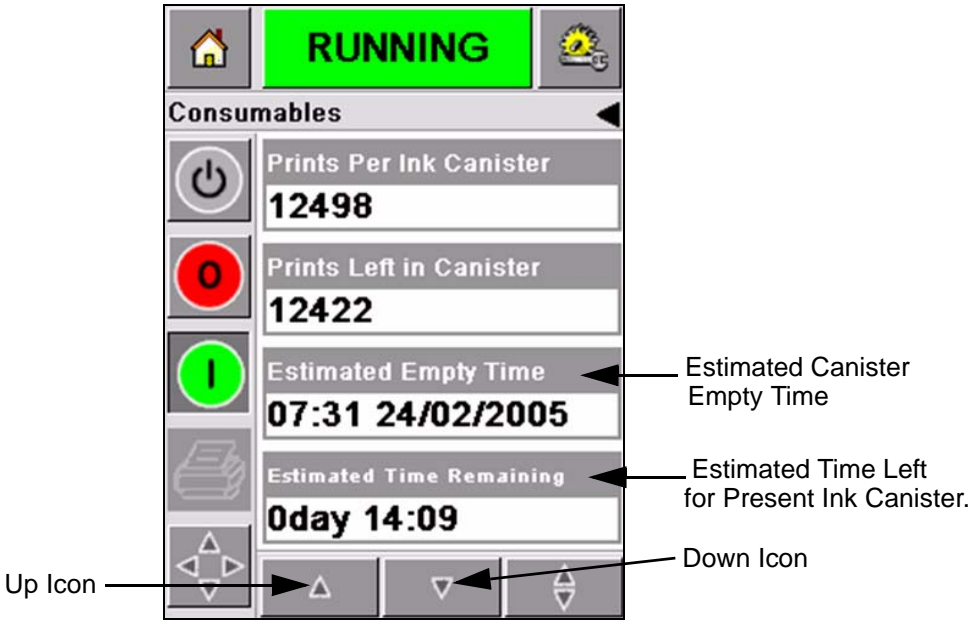

Figure 4-16: Estimated Time Display
- 3 Use the *Up* and *Down* buttons to see the *Estimated Empty Time* and *Estimated Time Remaining* for the current ink canister (Figure 4-16).